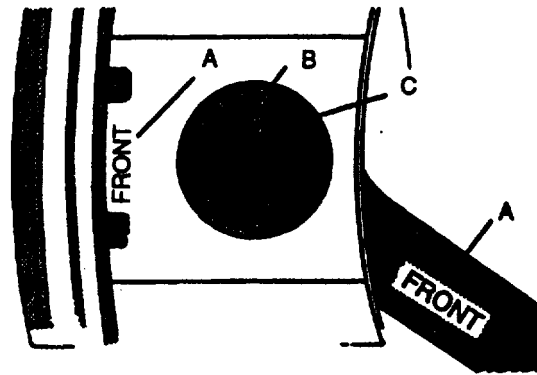

FIGURE 3-144. Assembled Piston, Pin, and Connecting Rod
**Pistons (7) must be installed on connecting rods (4) from which they were removed.**
- Assemble pistons (7) and connecting rods (4), making sure word FRONT (A, FIGURE 3-144) on side or top of piston and side of connecting rod are on same side.